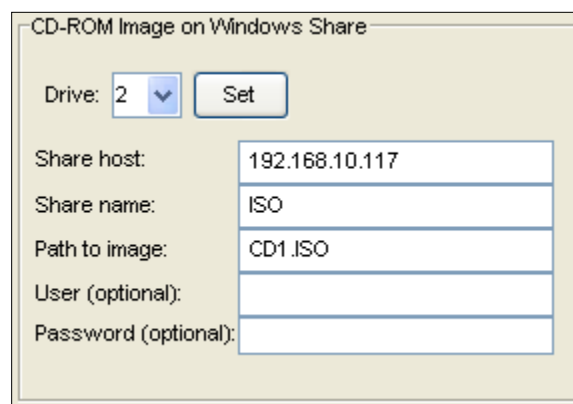

Figure 11-3
Please refer to Figure 11-3 for the following items.
- **User/Password (Optional):** Enter the user name and password for the person to access the data that you want to share, and click the **Set** button to enter your selections as shown in Figure 11-3.